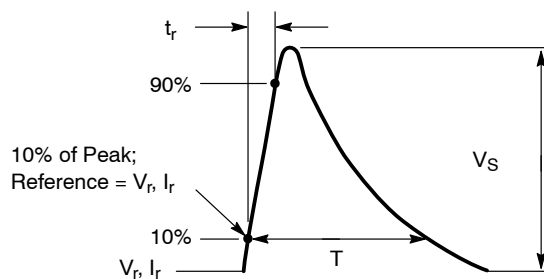

Figure 3. Load Dump Waveform Definition
- Nonrepetitive load dump pulse per Figure 3.